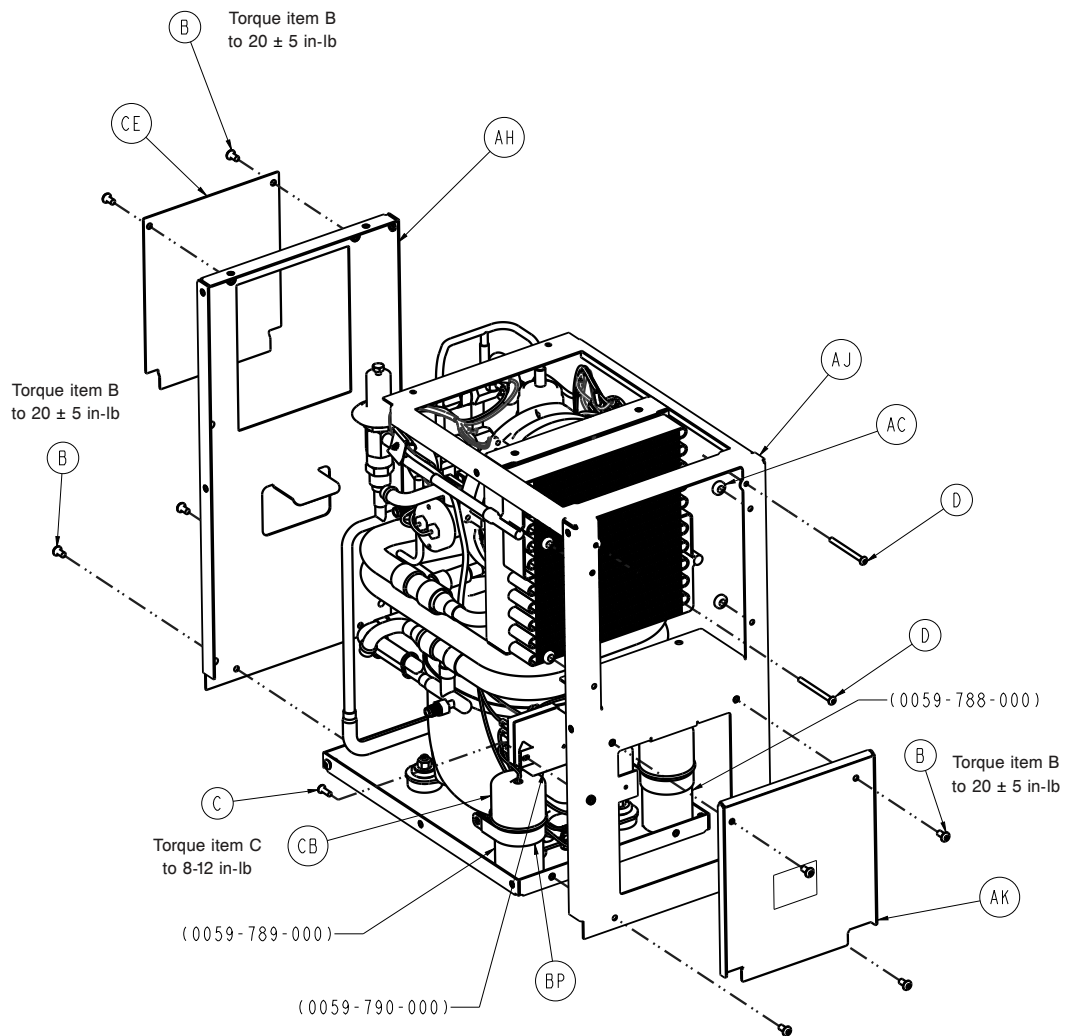

Figure 27 – Access panel
4. Using T25 torx, remove and save the two screws that secure the access panel (CE) (Figure 27).